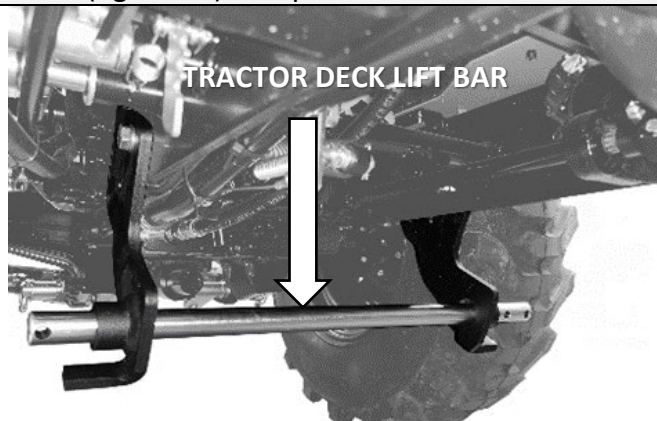

Figure 5A
4. Insert the Tractor Deck Lift Bar into both bracket bushings (figure 5A).